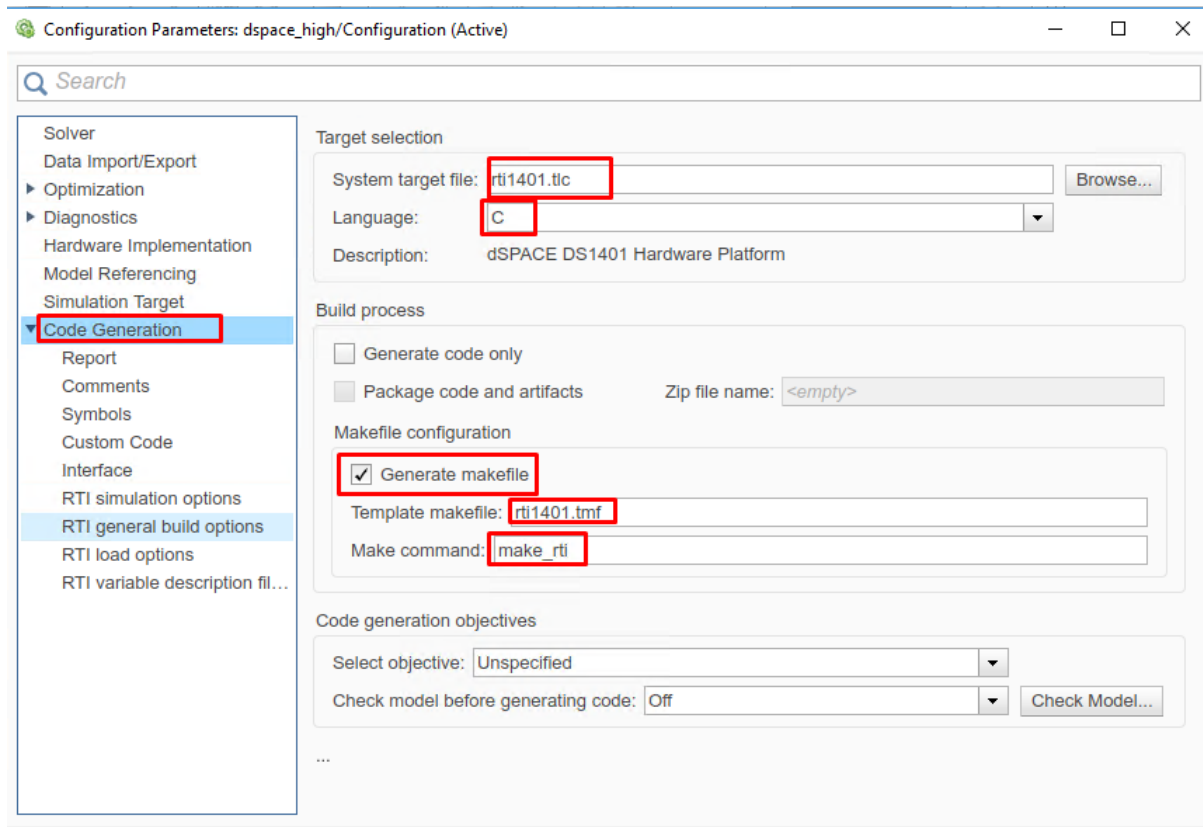

Figure 6.6: Configure Code Generation for dSPACE MicroAutoBox II
- 3) When creating the Simulink Model, in the Configurations, in the “Code Generation” tab, set the options (see Figure 6.6 below):